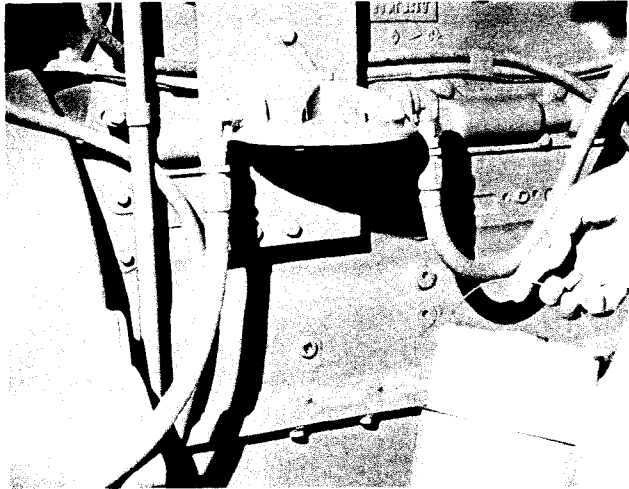

Fig. 5-14. Replaceable element fuel filter
2. Loosen nut at top of fuel filter. Take out dirty element, clean filter case and install a new element. Fig. 5-14.